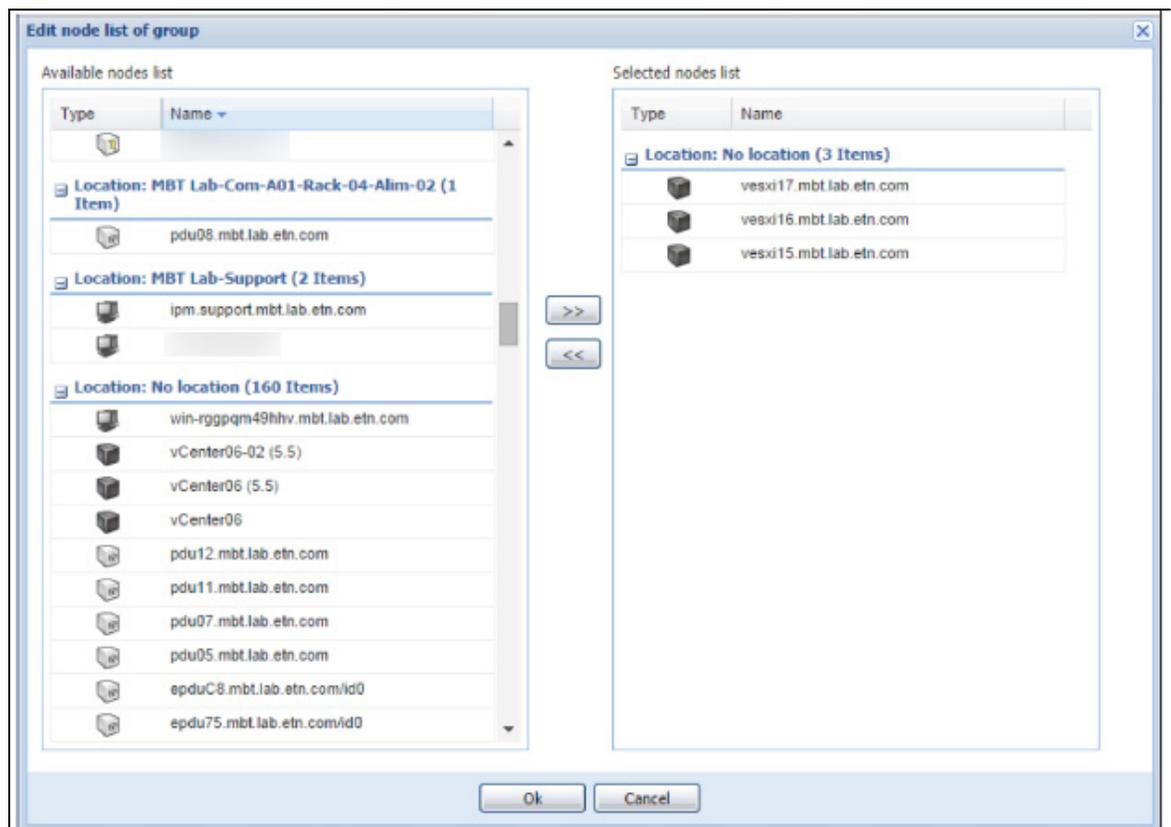

Figure 162. Edit Node List of Configuration Policy
6. In this example, select nodes from the “Available nodes list” and transfer them to the “Selected nodes list” using the right arrows, and then click **Ok** (see Figure 162).